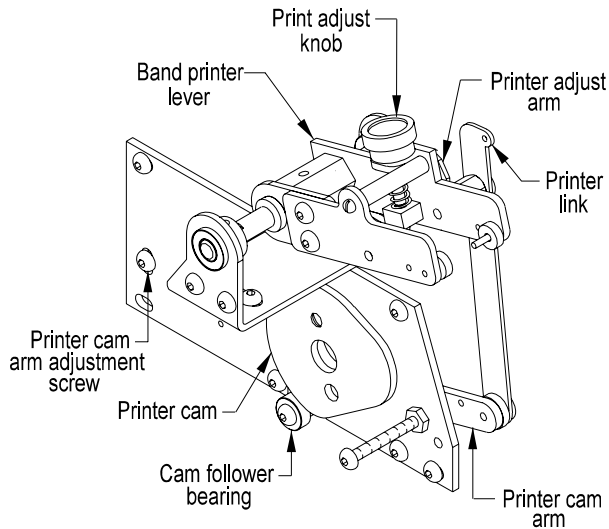

Figure 3.22
V. BANDHEAD REPLACEMENT: (Figure 3.22)